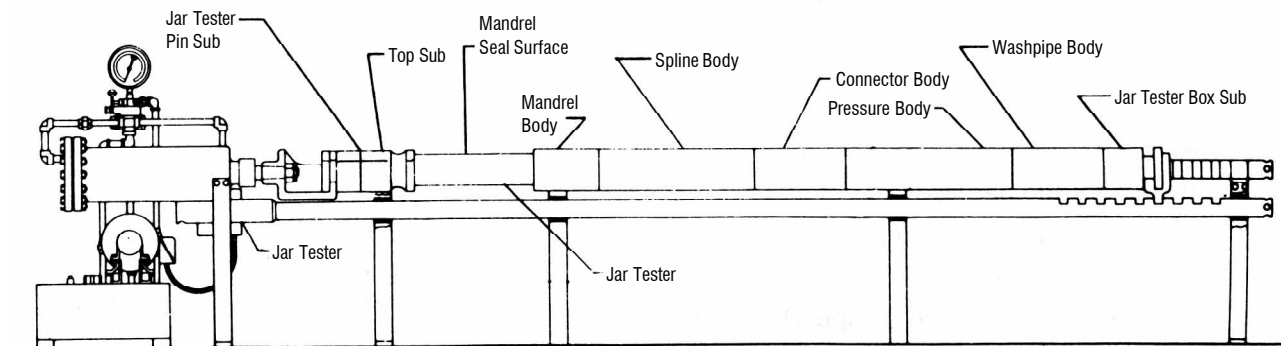

Figure 1
7. Bowen Jar Tester or equivalent (suitable for the Jar size). (See Figure 1, page 6).